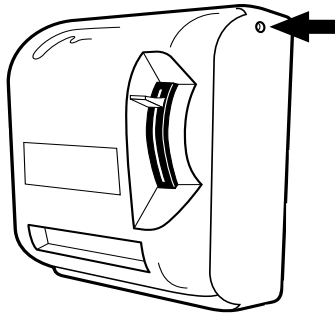

Figure 4
1. Insert the square end of the key into the square opening located on the top right of the dispenser (Figure 4).